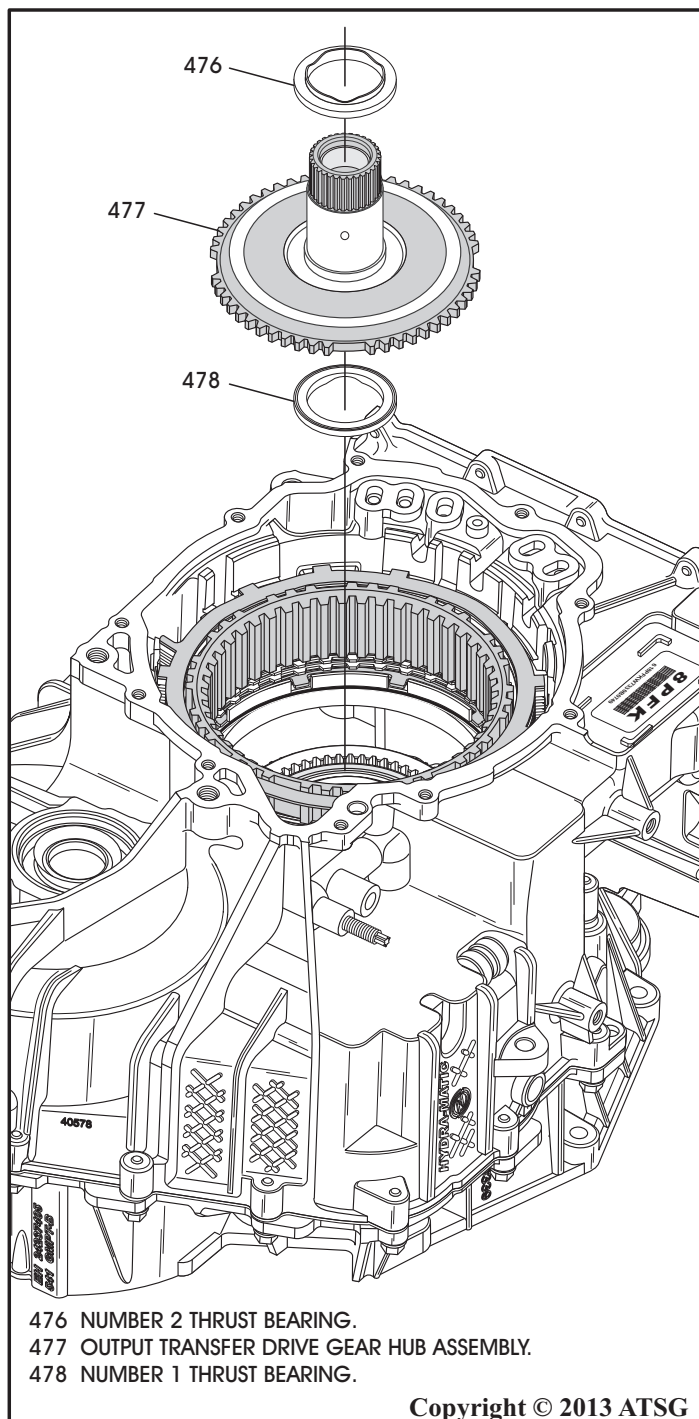

Figure 62
39. Remove the number 2 thrust bearing, the output transfer drive gear hub and the number 1 thrust bearing, as shown in Figure 62.